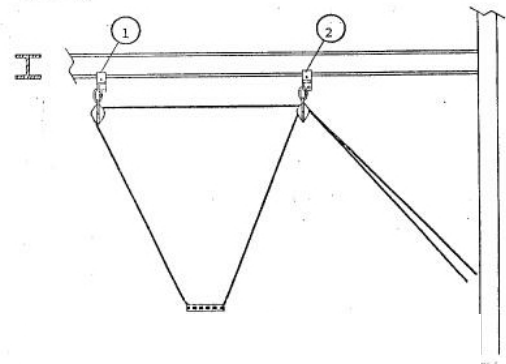

FIGURE 2
2. Referring to Figure 2, install beam clamp, quick link and single pulley assembly (1) in the appropriate location on the beam. Be sure all beam clamp fasteners are securely tightened. If pulley is not parallel to beam, loosen quick link and insert it in the other hole in angle iron. Be sure to tighten quick link securely.
4. Install beam clamp, quick link and double pulley assembly (2). Ensure both clamps are aligned properly and all fasteners are securely tightened. (If pulleys are not parallel to beam, loosen quick link and insert it into the other hole in angle iron, and tighten quick link securely.)
5. Insert suspension rope from beam clamp assembly (1) and let it hang to floor. Insert plain end of other suspension rope from the same direction and let it hang to floor.